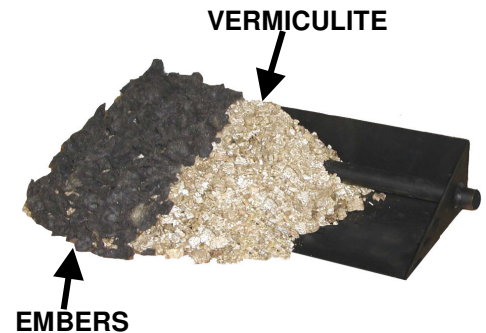

Figure 3
2. **Embers** (RW) are placed over the vermiculite to simulate glowing embers. For best results pinch off pieces of the embers material to the size of a dime and feather it out. Place as much as desired over the area the gas comes through. Burner should be completely full and level.
3. Light the gas and observe flame for even distribution. (See Figure 3)